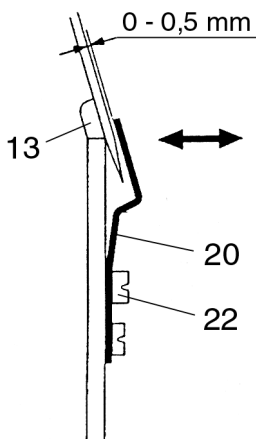

Fig. 40
When the looper point of the two thread chainstitch looper 13 is exactly at the needle center line of either the needle "L0" or "L2" when moving to the left, the needle should have a clearance of 0 - 0.05 mm to the front needle guard 20 (fig. 40).
- Turn the adjusting screw 22 until the clearance of 0 - 0.05 mm is set, as seen in figure 40.